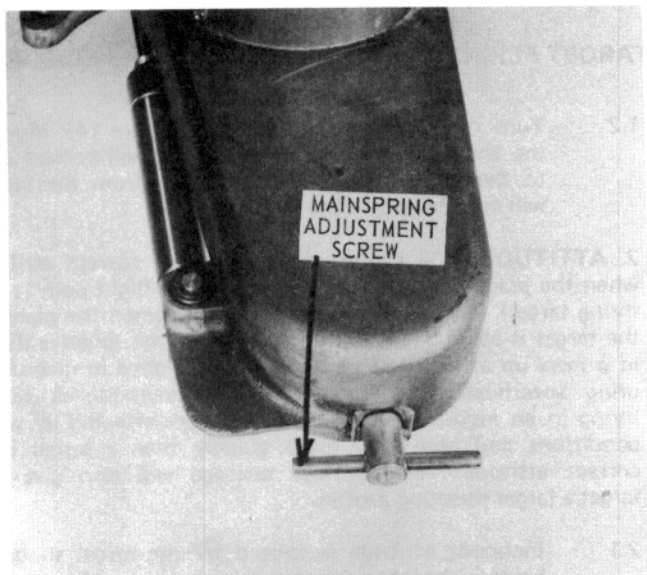

Figure 17 — Mainspring Adjustment Screw
3. **DISTANCE** — Length of the target flight is determined by the mainspring tension. **BEFORE ADJUSTING THE MAIN-SPRING TENSION**, the trap should always be "Safe Released", as discussed in Section II, and the power cord unplugged from the wall. This will prevent possible injury and will decrease the spring tension and make adjustment easier. The mainspring adjustment screw is located at the front of the trap (see Figure 17) and should be turned clockwise to increase tension and consequently the length of target flight.